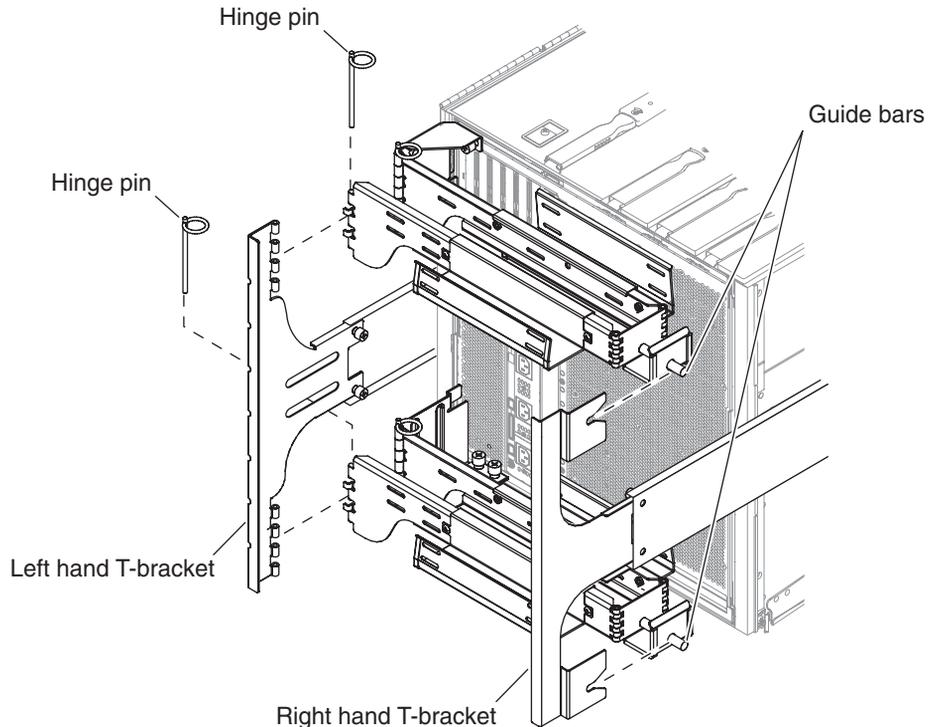

FIGURE 14-4 Detachment of Upper/Lower CMA Arms to T-Bracket
2. Free the upper and lower arms from the left hand T-bracket by removing the associated hinge pins, FIGURE 14-4.